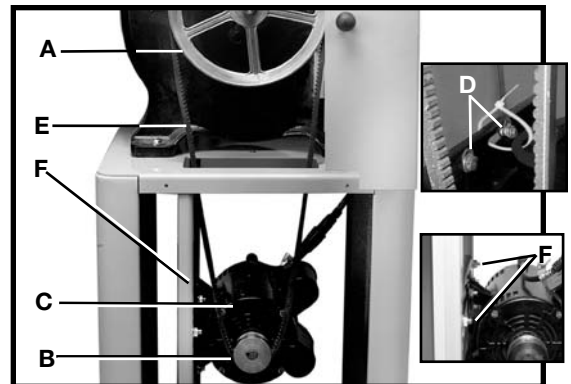

Fig. 9
1. Attach the V-belt (E) Fig. 9 on the two pulleys (A and B), and adjust the belt tension by raising or lowering the motor (C) on the motor mounting bars (D). (If necessary, the motor mounting bars (D) can be repositioned on the two posts (F) Fig. 9. Tension is correct when the belt is deflected approximately 1" in the center.